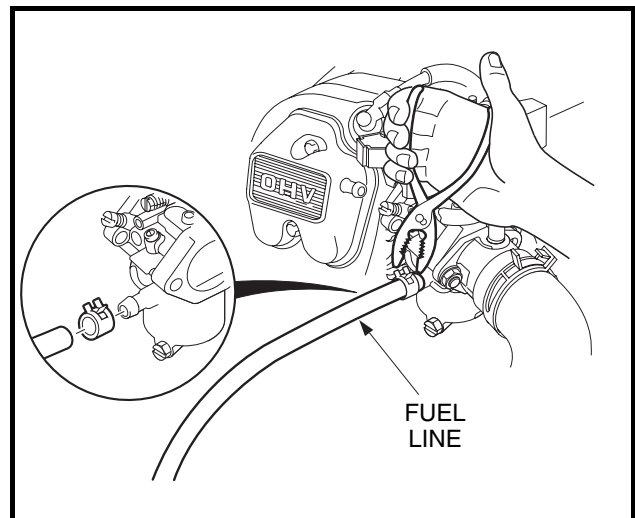

Figure 16-51 Connect Fuel Line
26. Remove the 1/4-inch bolt from the fuel line and connect the fuel line to the carburetor and secure with a hose clamp (**Figure 16-51, Page 16-20**).